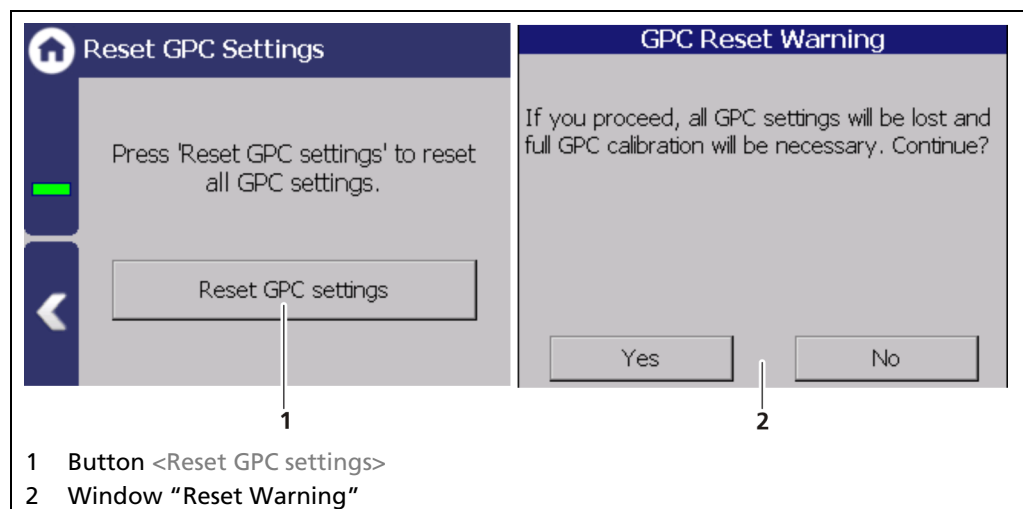

Fig. 98 Reset GPC Settings
1. Click on the button Reset GPC (Fig. 98, item 1).
- ▶ A confirmation message (Fig. 98, item 2) appears.